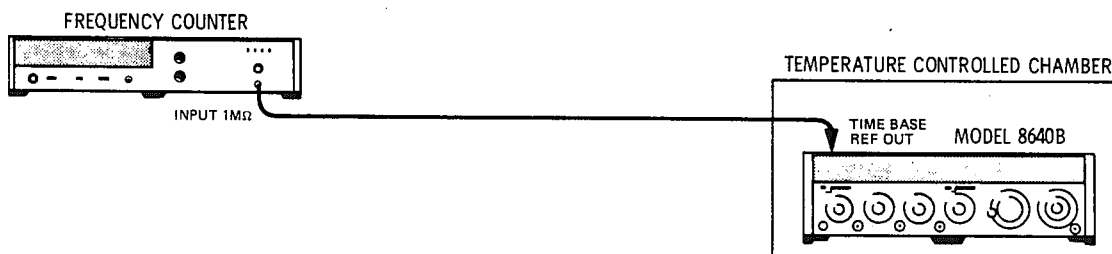

Figure 4-29. Internal Reference Accuracy Test Setup
- 1. Connect equipment as shown in Figure 4-29. Check that TIME BASE REF INT/EXT switch on the rear panel is set to INT.